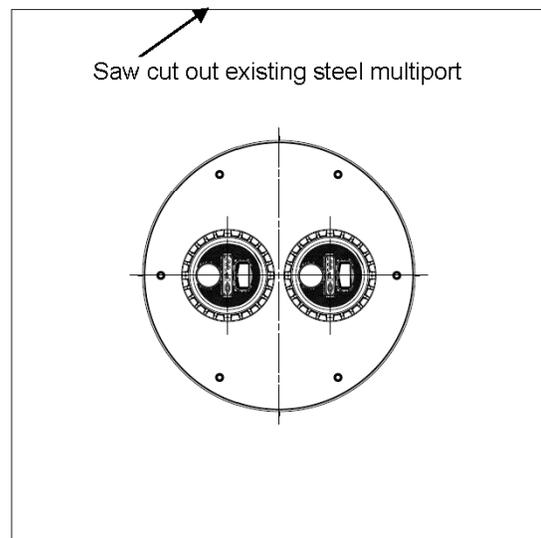

Figure 26
- 44. Saw cut out existing steel multiport. Frame on new composite FL100 multiport is approximately 45 inches in diameter. Ensure saw cut is large enough to accommodate new frame (approximately 7 feet square). See Figure 26.